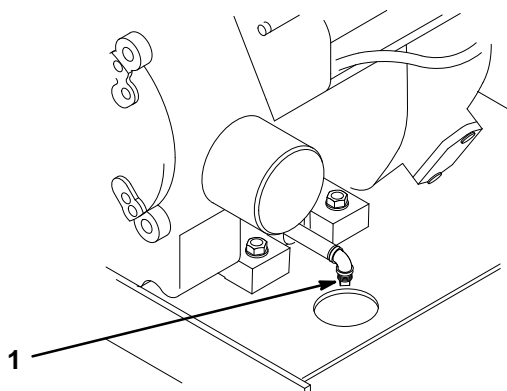

Figure 25
3. Place a pan below the oil drain. Remove the oil drain cap or plug (Fig. 25).